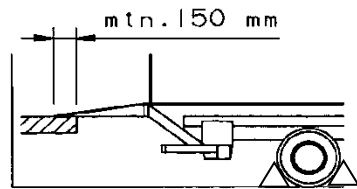

FIG. 1
- The platform must **sufficiently** overlap with the ramp to obtain safe loading surface (Fig. 1)